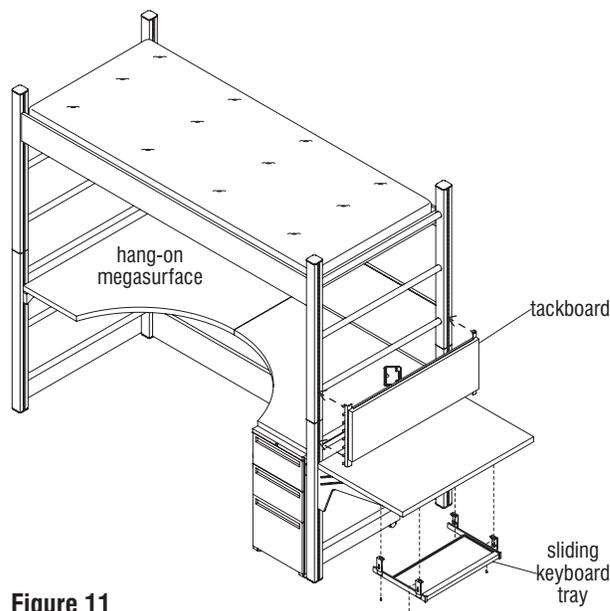

Figure 11
1. Hook the tackboard into the slots in the bed frame above the worksurface, or any other desired location. Engage both sides of the tackboard hooks at the same time and press down to secure (Figure 11).